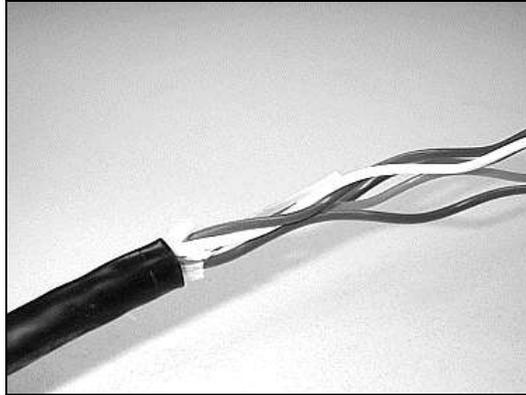

Figure 40 – Unwind the buffer tubes.
6.24 Carefully unwind the buffer tubes from one another (Figure 40).